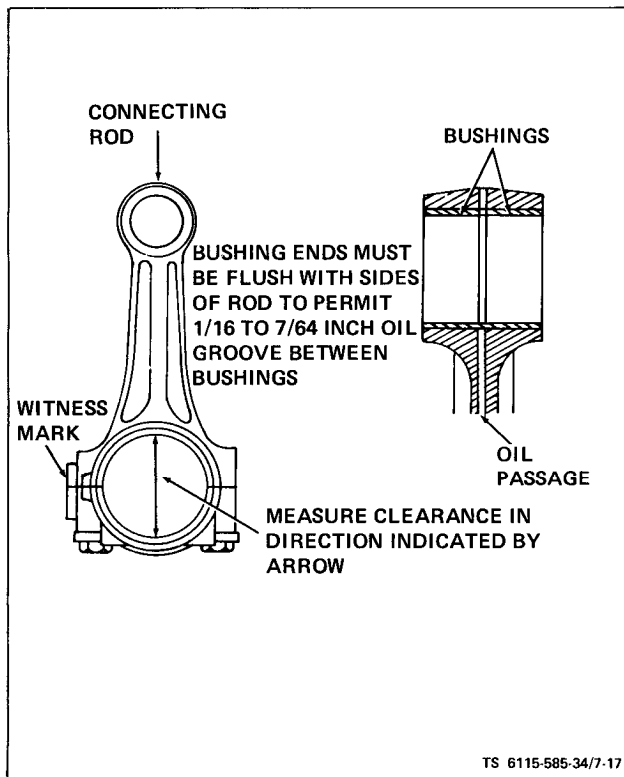

Figure 7-17. Connecting Rod and Bushings
(4) Connecting Rods (see figure 7-17). Clean connecting rods and check each for defects. Check connecting rod bushings for proper clearance with piston pin. Clearance is given in Table 1-2. If bushings (13, figure 7-14) are excessively worn, press them out and install one new bushing from each side of bushing bore. Press new bushings only until flush with sides of rod to leave 1/16 to 7/64 inch oil groove in center. Ream bushing I.D. to obtain the proper clearance. Check bore in connecting rod. Bore must be open. Check connecting rod alignment on a standard alignment fixture.
(1) Hone cylinder walls. Clean and oil the cylinder walls. Install each piston in proper cylinder using a suitable installer. Each piston assembly should be installed with notch on piston toward front of engine. The notch on the circumference of the closed end of the piston should be located closest to front of engine.
(2) Position each connecting rod on crankshaft and oil the journal and install rod cap with bearing half. When installing rod cap, position so raised witness mark on the forging matches the mark on connecting rod. See figures 7-17 and 7-18. The piston witness mark should face front and rod witness marks toward camshaft side of engine.
(3) Tighten capscrews to specified torque. See table 1-1.
(4) Turn engine over by hand to see that all bearings are free.